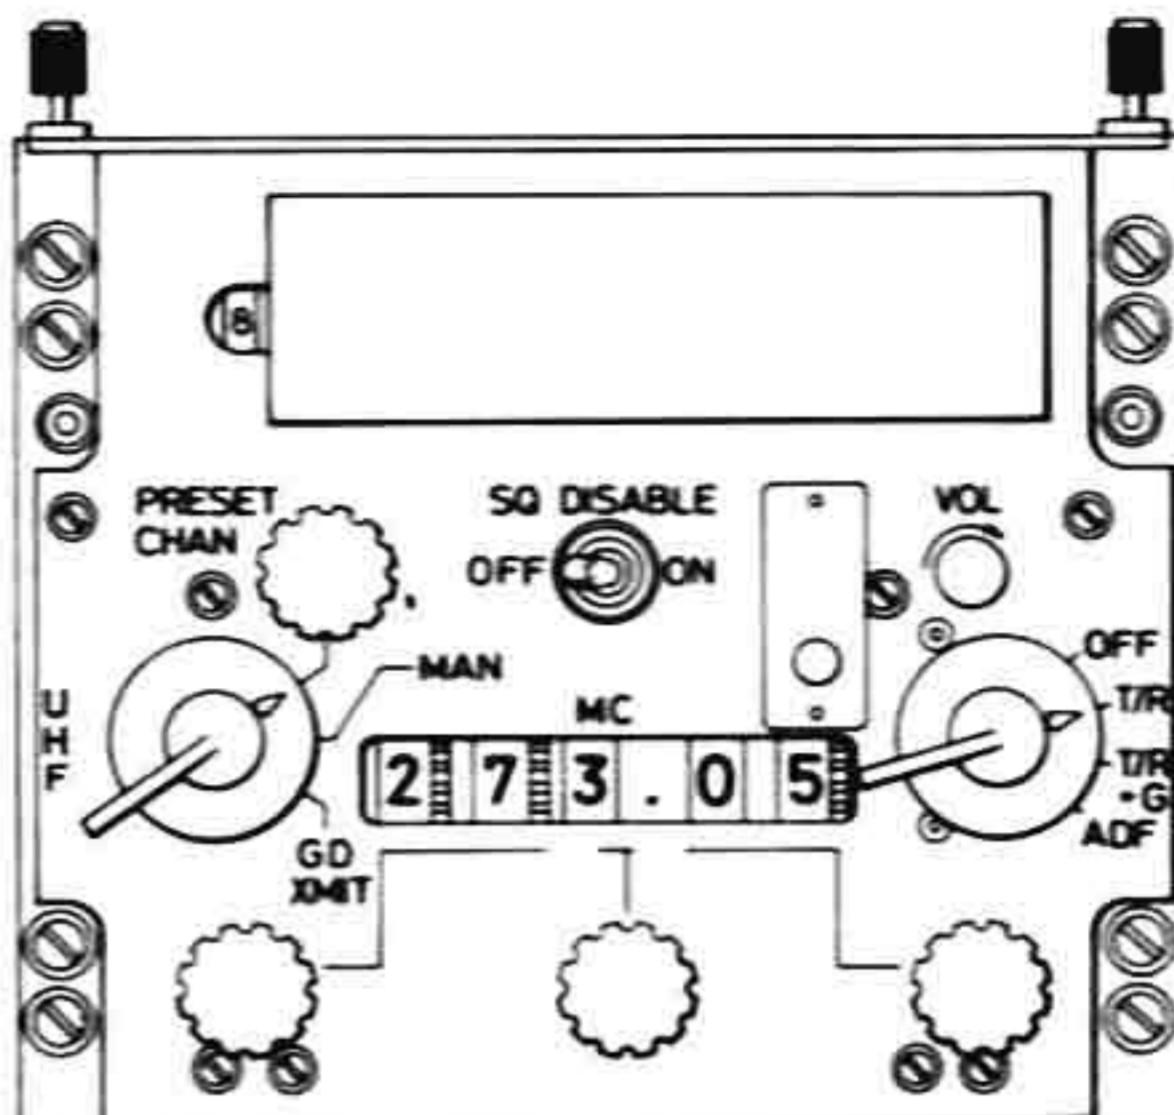

Fig. 1-38 UHF(AM) Radio, AN/ARC-51BX
UHF (AM) RADIO, AN/ARC-51BX (SEE FIG. 1-38)
1153. UHF (AM) Radio AN/ARC-51BX. (Ref. Fig. 1-38). The AN/ARC-51BX is a completely transistorized airborne radio set providing amplitude modulated speech communication in the UHF band and may be installed in place of the Collins 618F-1A radio. The set can be used for two-way radio communication between aircraft, air-to-ground or air-to-ship. Transmission and reception are conducted on the same frequency using a common antenna. The UHF antenna is mounted on the underside of the fuselage to the rear of the anti-collision warning light. In addition, an auxiliary receiver is incorporated into the transceiver to monitor any pre-set guard frequency in the 238 - 248 MHz band, the normally used guard frequency being 243 MHz. The control unit provides for manual channel selection, guard-transmit selection or selection of any one of twenty pre-set channels. The transceiver is located on the starboard side of the aircraft, forward of the firewall under the engine cowls, in lieu of VHF (AM) transceiver 618F-1A and the control unit is fitted on the No. 3 instrument panel in lieu of the Collins 618F-1A VHF control unit.